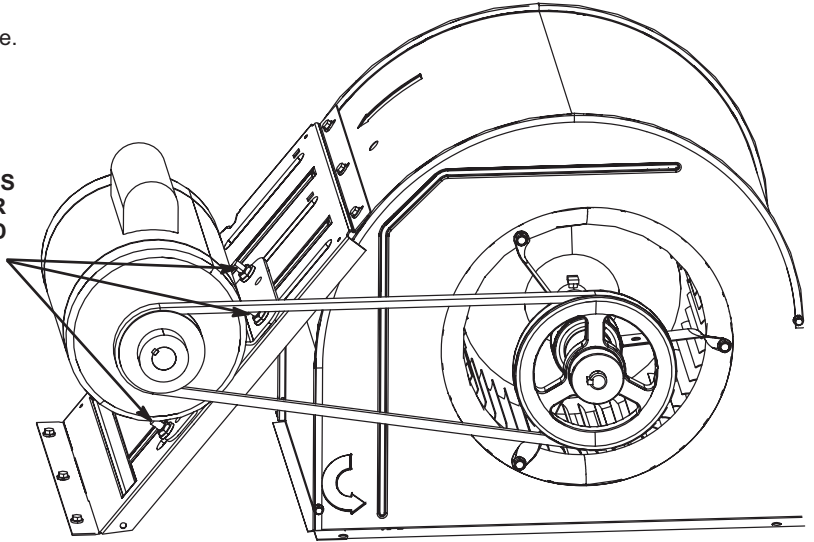

FIGURE 11
- 3 - The blower RPM can be adjusted at the motor pulley. Loosen Allen screw and turn adjustable pulley clockwise to increase CFM. Turn counterclockwise to decrease CFM. See FIGURE 11. Do not exceed minimum and maximum number of pulley turns as shown in TABLE 8.
- 1 - Loosen four bolts securing motor base to mounting frame. See FIGURE 11.